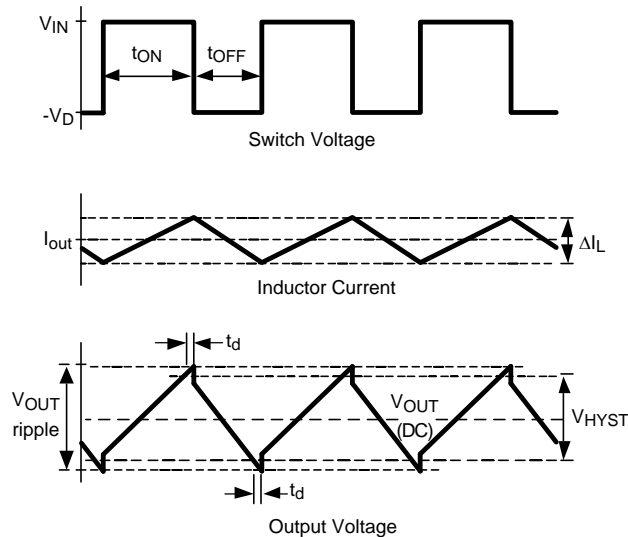

Figure 12. Hysteretic Waveforms
With the PFET on, the input supply charges C_{OUT} and supplies current to the load through the PFET and the inductor. Current through the inductor ramps up linearly, and the output voltage increases. As the FB voltage reaches the upper threshold (reference voltage plus hysteresis) the output of the comparator goes high, and the PGATE turns the PFET off. When the PFET turns off, the catch diode turns on, and the current through the inductor ramps down. As the output voltage falls below the reference voltage, the cycle repeats. The resulting output, inductor current, and switch node waveforms are shown in Figure 12.
- $toff_{min}$ is the sum of the blanking time, the propagation delay time, and the PFET delay time (see Figure 12) (2)
Capacitors with high ESL (equivalent series inductance) values should not be used. As shown in Figure 12, the output ripple voltage contains a small step at both the high and low peaks. This step is caused by and is directly proportional to the output capacitor's ESL. A large ESL, such as in an electrolytic capacitor, can create a step large enough to cause abnormal switching behavior.